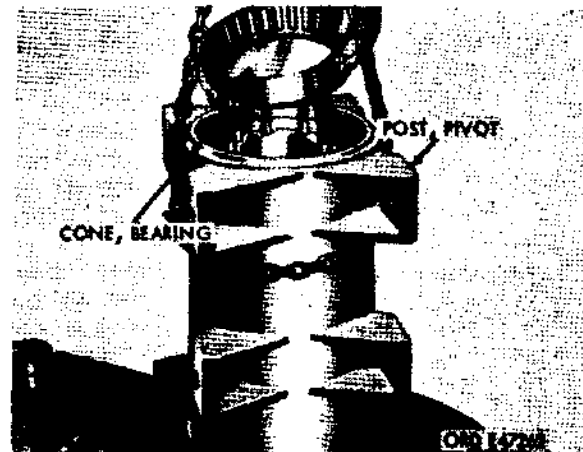
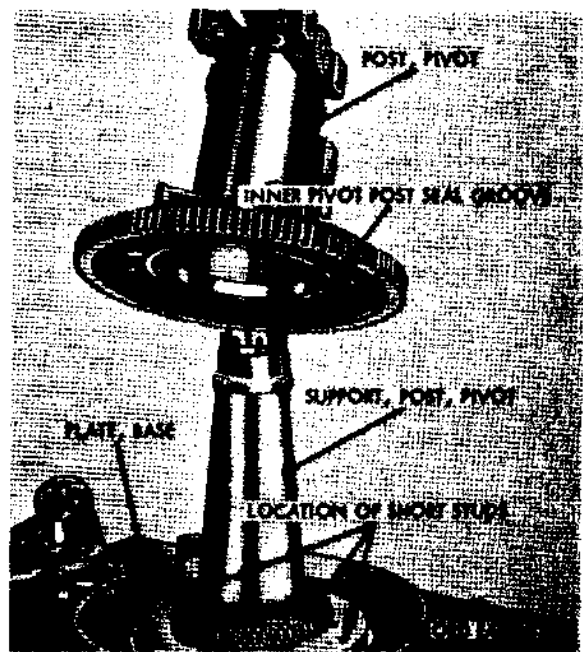

Figure 474. Removing bearing cone from pivot post
Figure 475. Removing pivot post from base plate
- (d) Attach chain hoist to pivot post and lift high enough to permit removal of bearing cone. Remove bearing cone (fig. 474). Continue lifting pivot post until it is free from pivot post support (fig. 475).
the base plate. Three of these studs are slightly shorter than the others in order to provide clearance. For installation position of short mounting studs, refer to figure 475.
- (b) Install 13 mounting studs (AC) and three mounting studs (N) on bottom side of pivot post support (P). Attach on overhead hoist to pivot post support and position on base plate (J). Install 13 safety nuts (AE) on long mounting studs and three hex-nuts (K) on short mounting studs. Tighten according to torque specification table in Appendix I.
- (c) Install bearing cone (R) at base of pivot post support (P). Position bearing cup (S) in pivot post (BB). Tap cup lightly around edges with a soft hammer until it is seated in pivot post. Make sure cup does not become cocked. Install bearing cup (CC) in swivel valve end of pivot post in same
manner. Install inner pivot post seal (T) in groove (fig. 475) in base of pivot post. Install eight studs (Q) in swivel valve end of pivot post support, for securing pivot post support cap.